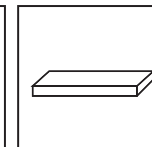

FIG. 5
- Magnets (LEDMAGMT) — See FIG. 5